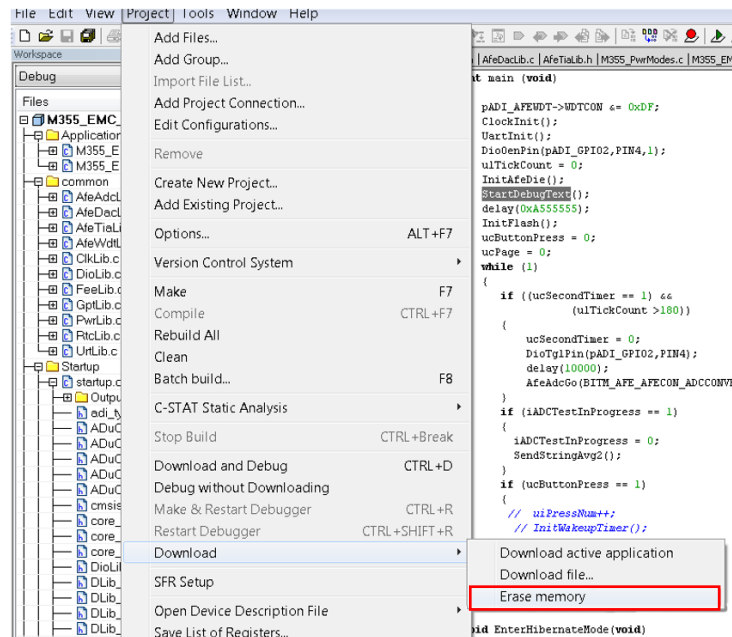

Figure 29. Embedded Workbench Erase Flash Memory Option
4. In IAR, navigate to **Project > Download > Erase memory** (see Figure 29).